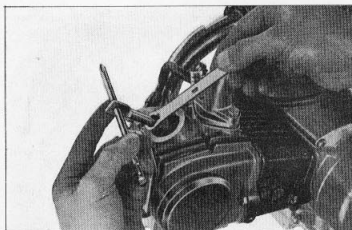

Figure 6-5. Locking the adjusting nut
- When locking the adjusting screw, hold the screw to prevent its turning. (Fig. 6-5)